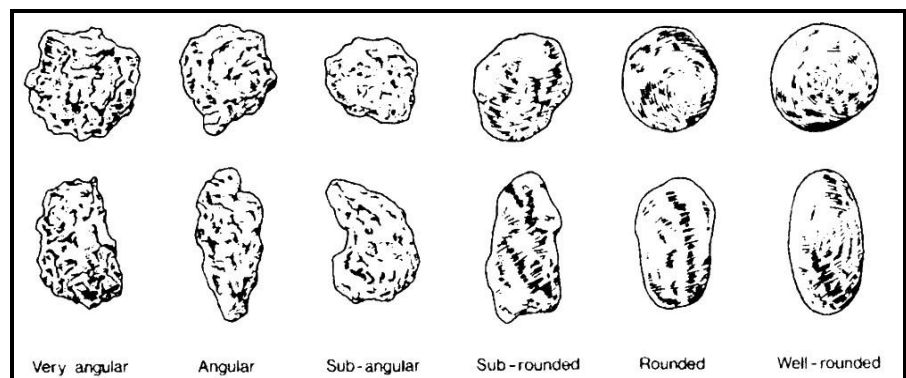

Fig. 4: shapes of stones
4. **Inclusions:** This requires description of everything not covered in composition that is not a bulk find: usually **stones, some shell and/or charcoal**, and their proportion **of the whole context** (see chart below: *fig. 3*); or are they infrequent, occasional, moderate or frequent in occurrence e.g. rare flecks of charcoal or 5% rounded small pebbles c10mm. In the bulk finds box compare proportions of stone, shell etc **within** the bulk finds. **Careful description is vital.** Elaborate in the descriptive space or on the back as necessary. **Note if the inclusions are spread unevenly**, if they cluster or shell is associated with the stone rather than charcoal etc. This can alert to 'special' deposits **Note the condition of inclusions** (elaborate in the bulk finds box): burnt, fragmentary, shattered, abraded, polished, complete, well-preserved. **Note range of sizes of stones:** and also is the stone well sorted – mostly all the same size; moderately sorted – a small range of sizes; or poorly sorted – a wide range of sizes. **What shape are the stones?** See below, *fig. 4*.